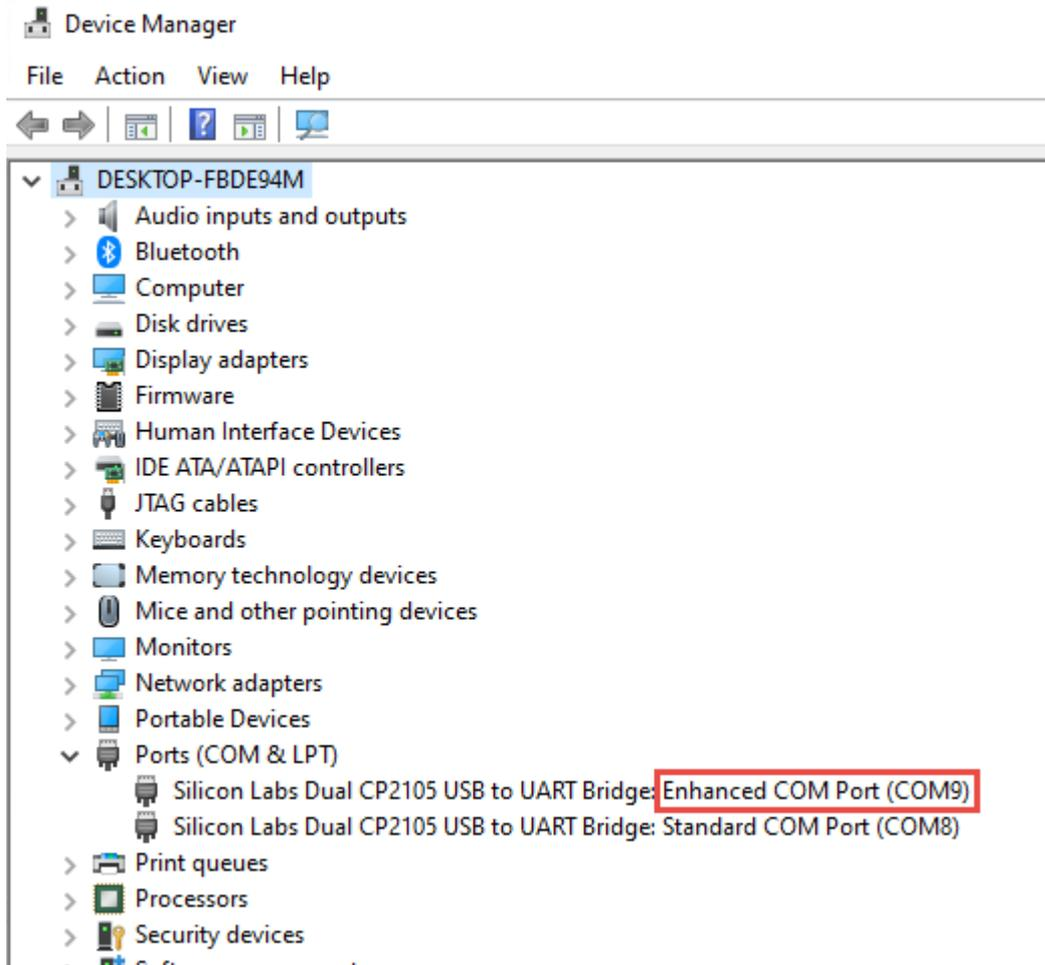

Figure 1-7 Device Manager
1. Open the “Device Manager” on your windows and check the “Port(COM&LPT)” tab. User may find the Silcon UART device CP2105 on the list. Find the COM number of “**Enhanced COM port**”. It represents the HPS UART Port. See **Figure 1-7**, the COM number of this Host is COM9. *Note that the “COM9” on the Serial Line column needs to be modified according to the actual com port on the user's computer.*